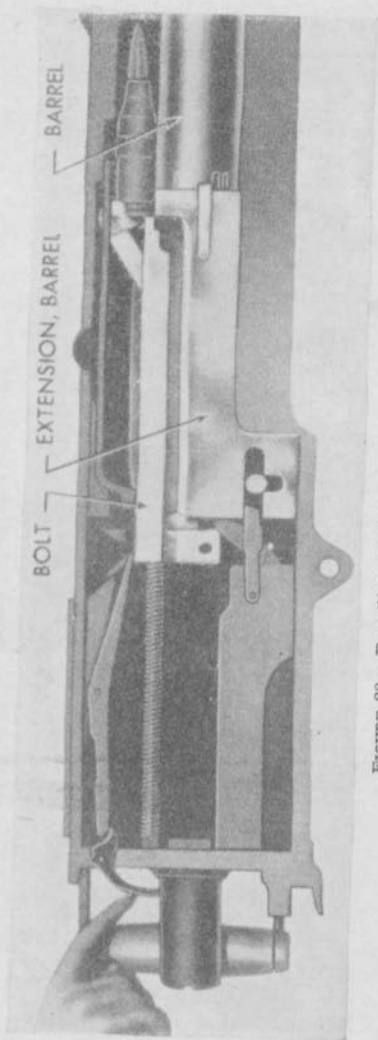
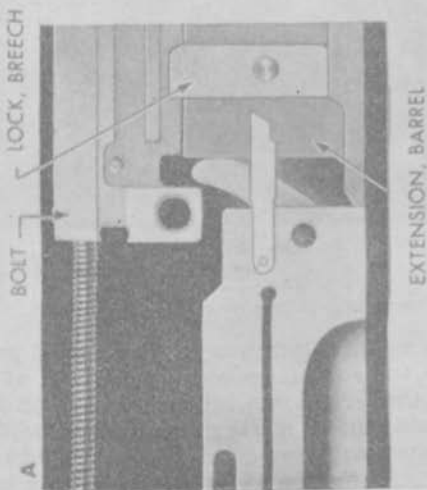
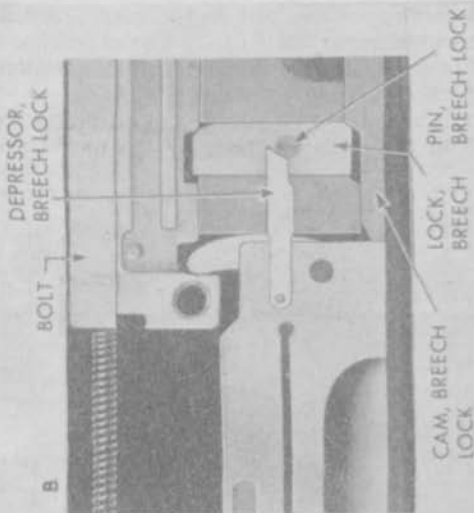

FIGURE 23.—Recoiling portion at instant of firing.
FIGURE 24.—Action of breech lock.
FIGURE 25.—Action of breech lock depressor.
■ 72. RECOILING.—The complete cycle of the recoiling portion of the gun, which takes place as each cartridge is fired, consists of the recoil stroke when certain parts of the gun move rearward and the counterrecoil stroke when the same parts move forward. At the instant of firing, the barrel, barrel extension and bolt, known as the recoiling portion, are in the forward position in the gun as shown in figure 23. At this time the bolt is held securely against the base of the cartridge by the breech lock which extends up from the barrel extension into a notch in the under side of the bolt. (See fig. 24.) After the cartridge explodes and as the bullet travels out of the barrel, the force of the recoil drives the recoiling portion rearward. During the first $\frac{3}{4}$ inch of travel the breech lock is pushed back off the breech lock cam step. (See fig. 25.) This permits the breech lock to be forced down out of the notch in the bolt by the breech lock depressors engaging the breech lock pin. This unlocks the bolt. As the recoiling portion moves toward the rear, the barrel extension rolls the accelerator rearward. The tip of the accelerator strikes the lower projection on the bolt and